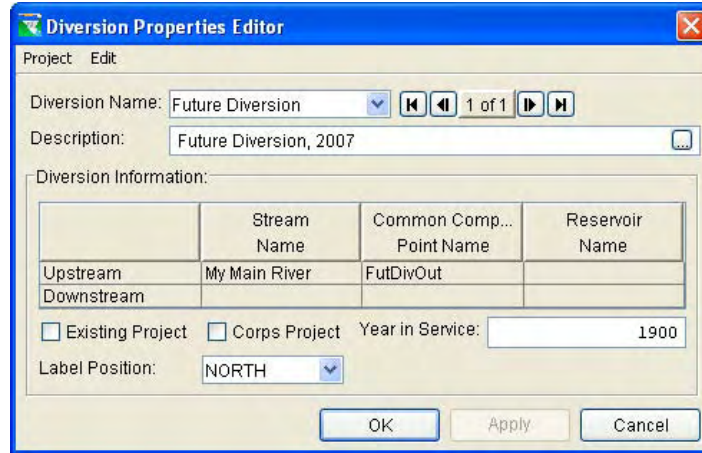

Figure 6.13 Diversion Editor
2. Right-click on the Diversion and select **Edit Diversion**. The **Diversion Editor** opens, as shown in Figure 6.13.